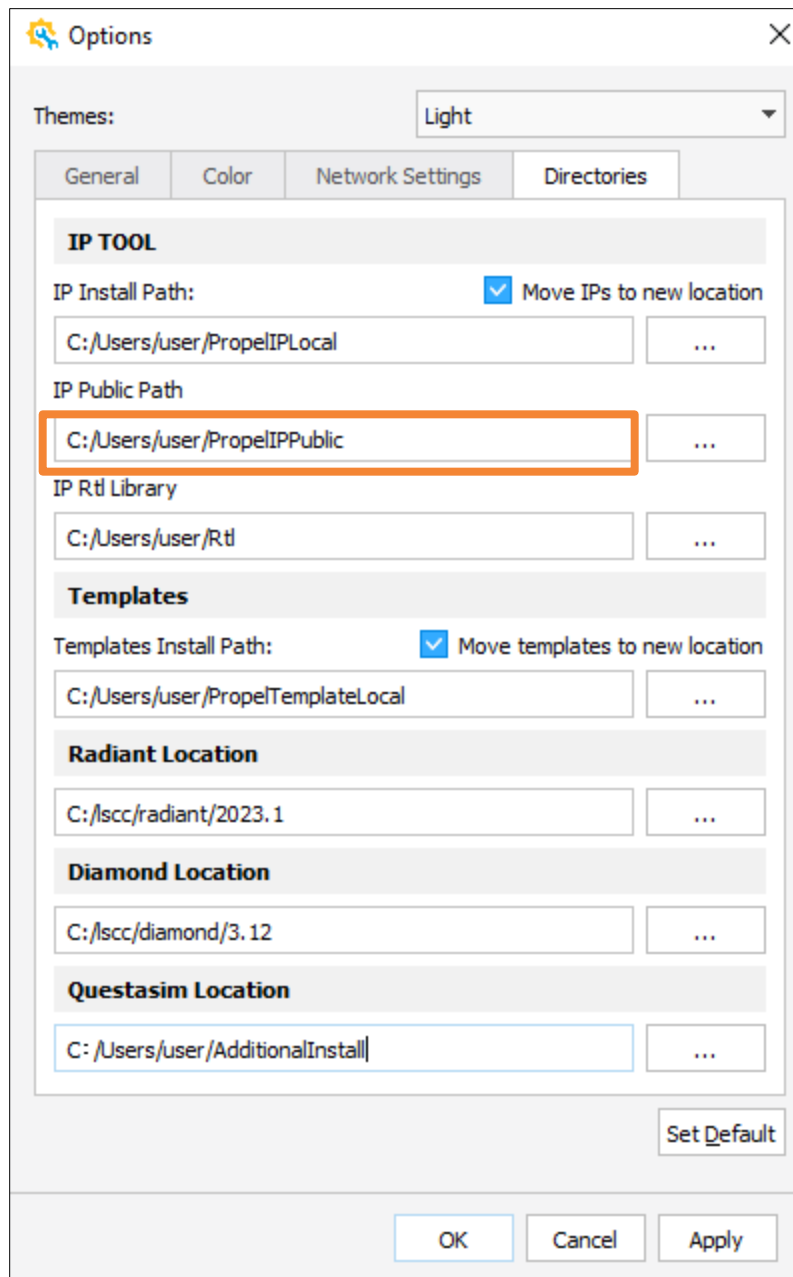

Figure 2.141. IP Public Path
- IP Public Path (Figure 2.141):
- IP RTL Library (Figure 2.141): Folders of the IP RTL library. Refer to Lattice Propel 2025.1 IP Package User Guide \(FPGA-UG-02236\) for more details of the IP RTL Library.
Introduction for Templates (Figure 2.141):